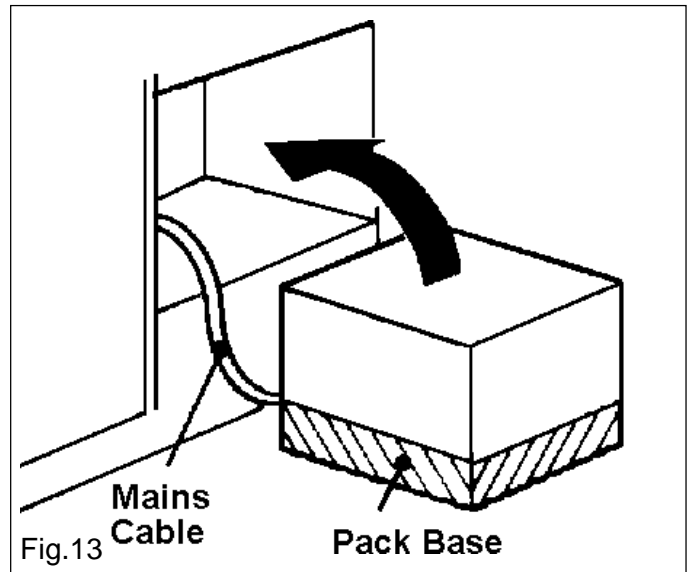

Fig.13
- Ensure the cooker is in front of the cabinet. See Fig. 13.